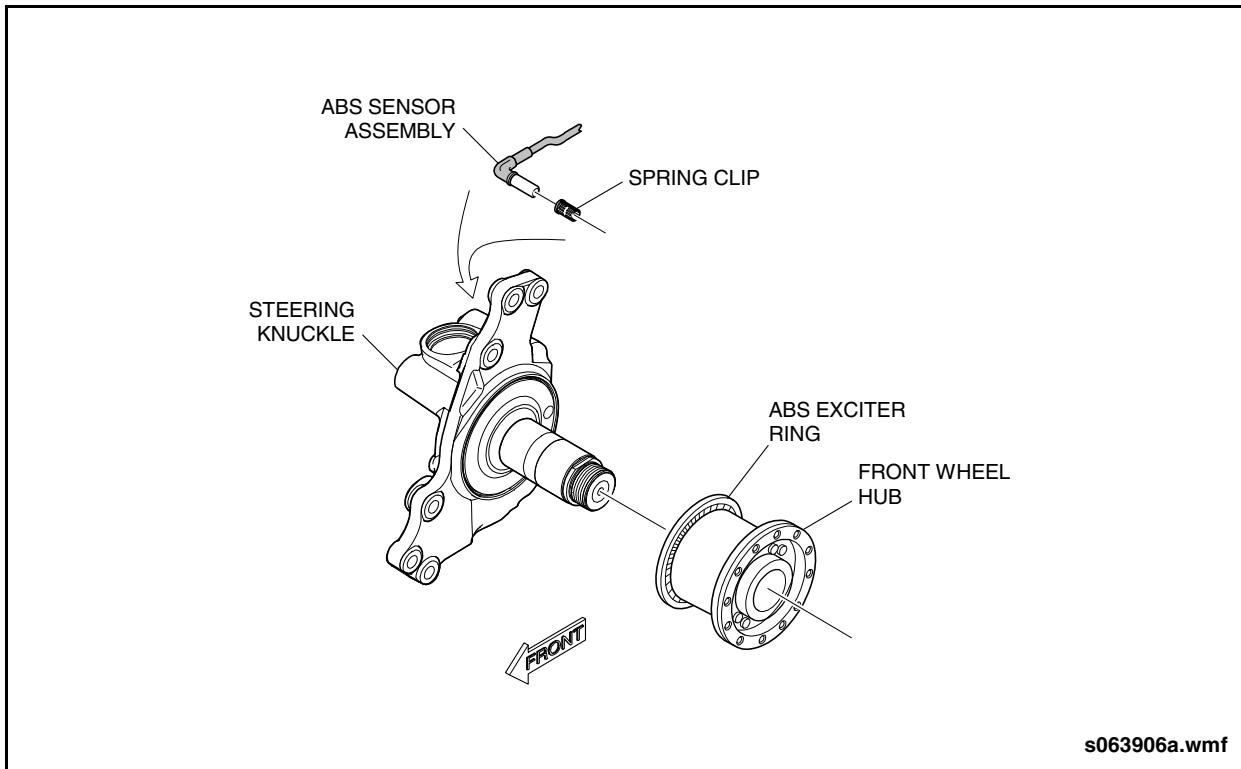

Fig. 1-77: Front Speed Sensor Removal & Installation
2. Pull speed sensor out of sleeve using a twisting motion if necessary. Do not pull on cable. See "Fig. 1-77: Front Speed Sensor Removal & Installation" on page 76.